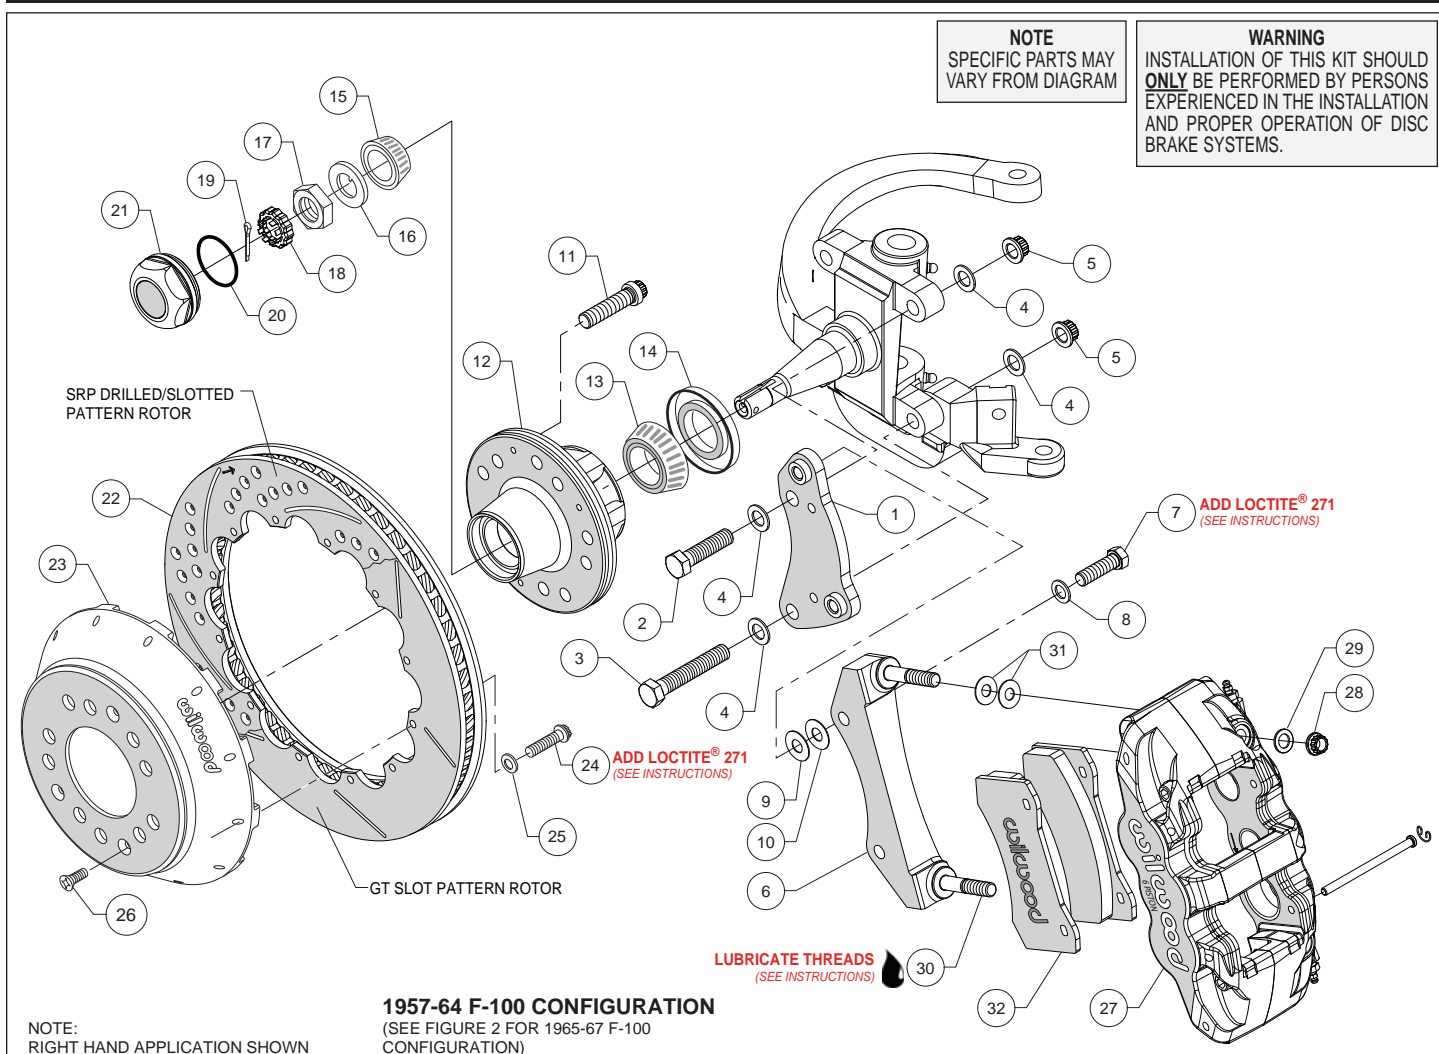
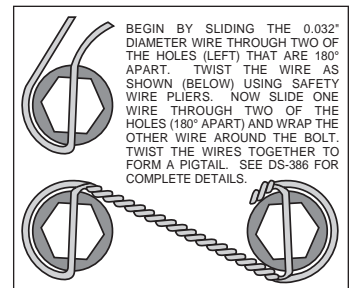
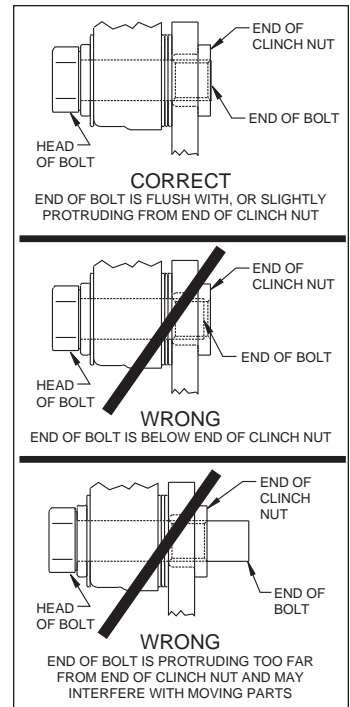

Figure 1. Typical Installation Configuration, Model Years 1957-1964
Figure 4. Safety Wire Diagram
Figure 5. Clinch Nut Engagement Diagram
Assembly Instructions (numbers in parenthesis refer to the parts list, on the preceding page and Figures 1 and 2). **CAUTION:** All mounting bolts must fully engage clinch nuts. Be sure to check that all bolts are either flush or protruding through flanged side of clinch nut after shimming, Figure 5.
- Orient the spindle bracket (1) as shown in Figure 1 or 2, and Photo 1, and install using bolts (2 and 3), washers (4) and nuts (5). Temporarily tighten the mounting bolts. Ensure that the flanged heads of the clinch nuts in the bracket are facing outboard, Photo 1. **NOTE:** The bracket must fit squarely against the mount bosses on the upright. Inspect for interference from casting irregularities, machining ridges, burrs, etc. Torque lock nuts (5) to 65 ft-lb.
- The caliper mount radial bracket (6) should initially be installed with clean, dry threads on the mounting bolts. Orient the bracket as shown in Figure 1 or 2, and Photo 2. Install onto the spindle bracket using bolts (7), and washers (8). Initially place one .030 thick shims (9) on each bolt between the radial and spindle brackets, Figure 1 or 2. Temporarily tighten the mounting bolts. Later, after the caliper alignment has been checked, the mount bolts will be secured using red *Loctite*® 271.
- Screw dust cap (21) into hub (12), Photo 8. Friction created by the o-ring (20) on the dust cap keeps it from unscrewing. **NOTE:** The O.D. of the existing OEM spindle washer may be larger than the I.D. of the dust cap not allowing it to seat against the hub face. Therefore, use the spindle washer (16) supplied with the kit instead of the OEM washer.
- Orient the rotor (22) and the hat (23) as shown in Figure 1 or 2 and Photo 9. Attach rotor to hat using bolts (24) and washers (25). Using an alternating sequence, apply red *Loctite*[®] 271 to the threads, and torque to 155 in-lbs. For an added measure of security, the bolts may be safety wired using standard 0.032 inch diameter stainless steel safety wire as shown in Figure 4. Refer to Wilwood's data sheet DS-386 (available at www.wilwood.com/Pdf/DataSheets/ds386.pdf) for complete safety wire installation instructions.
- **NOTE:** This kit contains distinct right and left hand calipers that must be mounted in a specific direction, as described below. Lubricate the caliper mounting studs (30) with lightweight oil. Initially place two .030" thick shims (31) on each stud between the caliper and the bracket, as shown in Figure 1 or 2, and Photo 11. Mount the caliper (27) onto the bracket (6) using lock nuts (28) and washers (29), Figure 1 or 2. Ensure that the caliper is mounted so the largest pistons are at the rotor exit end of the caliper, in relation to the direction of rotor rotation. Temporarily tighten the lock nuts and view the rotor through the top opening of the caliper. The rotor should be centered in the caliper, Photo 12. If not, adjust by adding or subtracting shims (9 and/or 10)